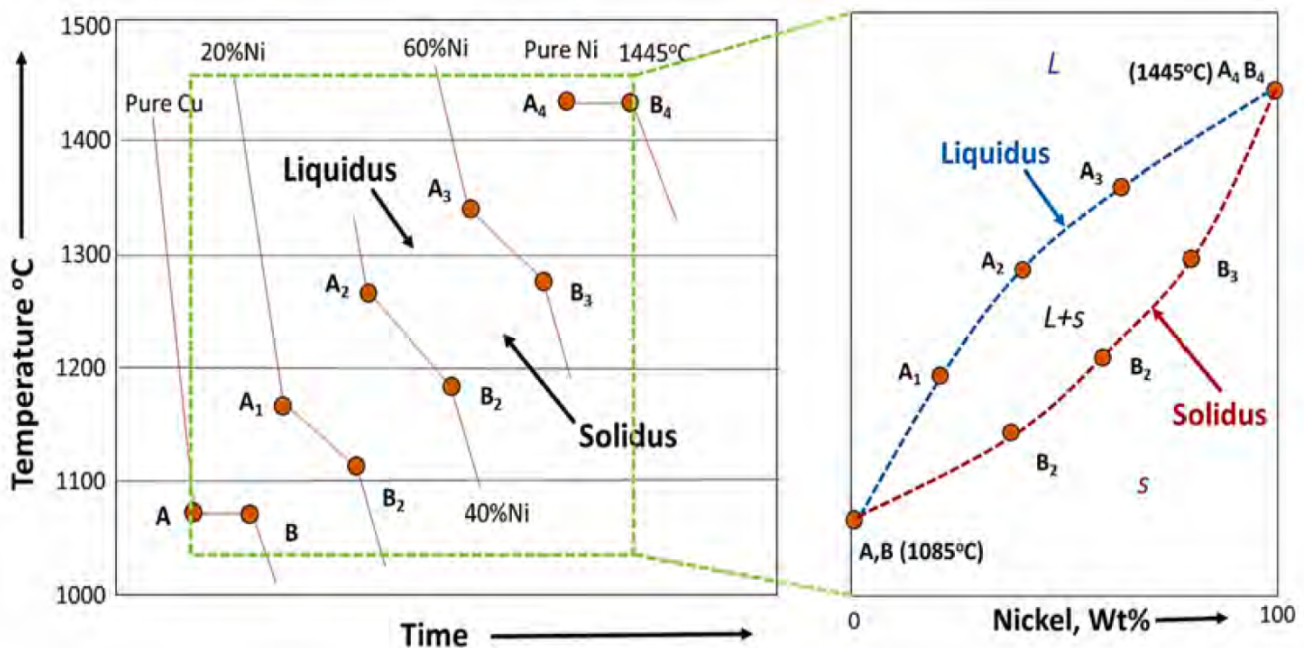

Fig 2.7: Phase diagram construction from the cooling curves
- **DIAGRAM REFERENCE:** FIG. 2.7 - CONSTRUCTION OF A PHASE DIAGRAM FROM COOLING CURVES.